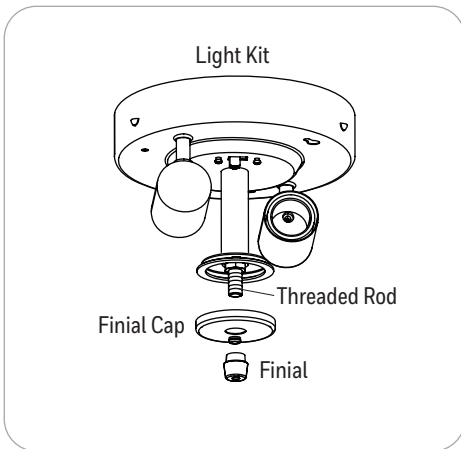

Figure 5.7
7. Remove the finial and finial cap from the threaded rod at the bottom of the light kit (Figure 5.7).